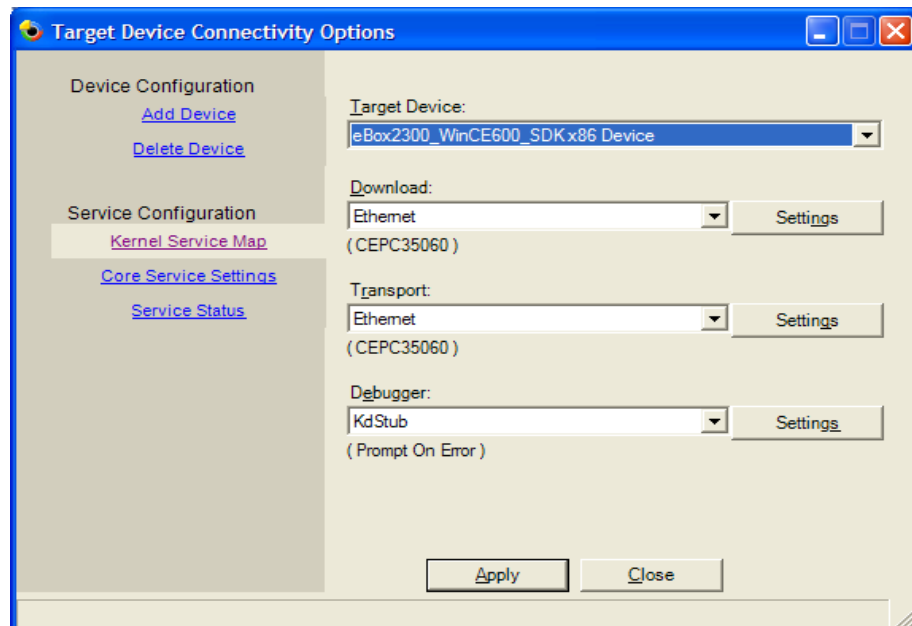

Figure 59. VS 2005 Target Device Connectivity Options
1. From VS2005 IDE, select Target => Connectivity Options => Add Device => name your target device, e.g. eBox 2300, and click on the Add button to continue. Then From the Target Device Connectivity Options screen, make sure Debugger set to KdStub, and clicks on one of the Settings buttons to bring up the Ethernet Download Settings screen. Refer to figure 59.